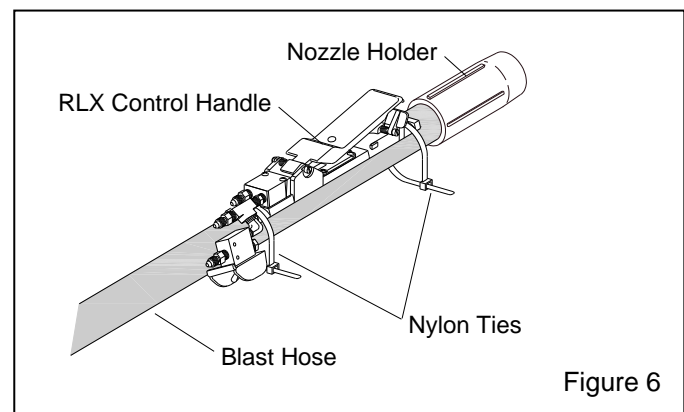

Figure 6
2.3 Blast Hose and Control Hose Connections, Refer to Figure 6.
2.3.2 Band the control handle to the blast hose close to the nozzle holder as shown in Figure 6. Use the two nylon ties provided or similar means to secure the control handle to the hose. Once the control handle is firmly attached, clip the tie ends so they do not snag the operator's clothing or interfere with the operation of the control handle.